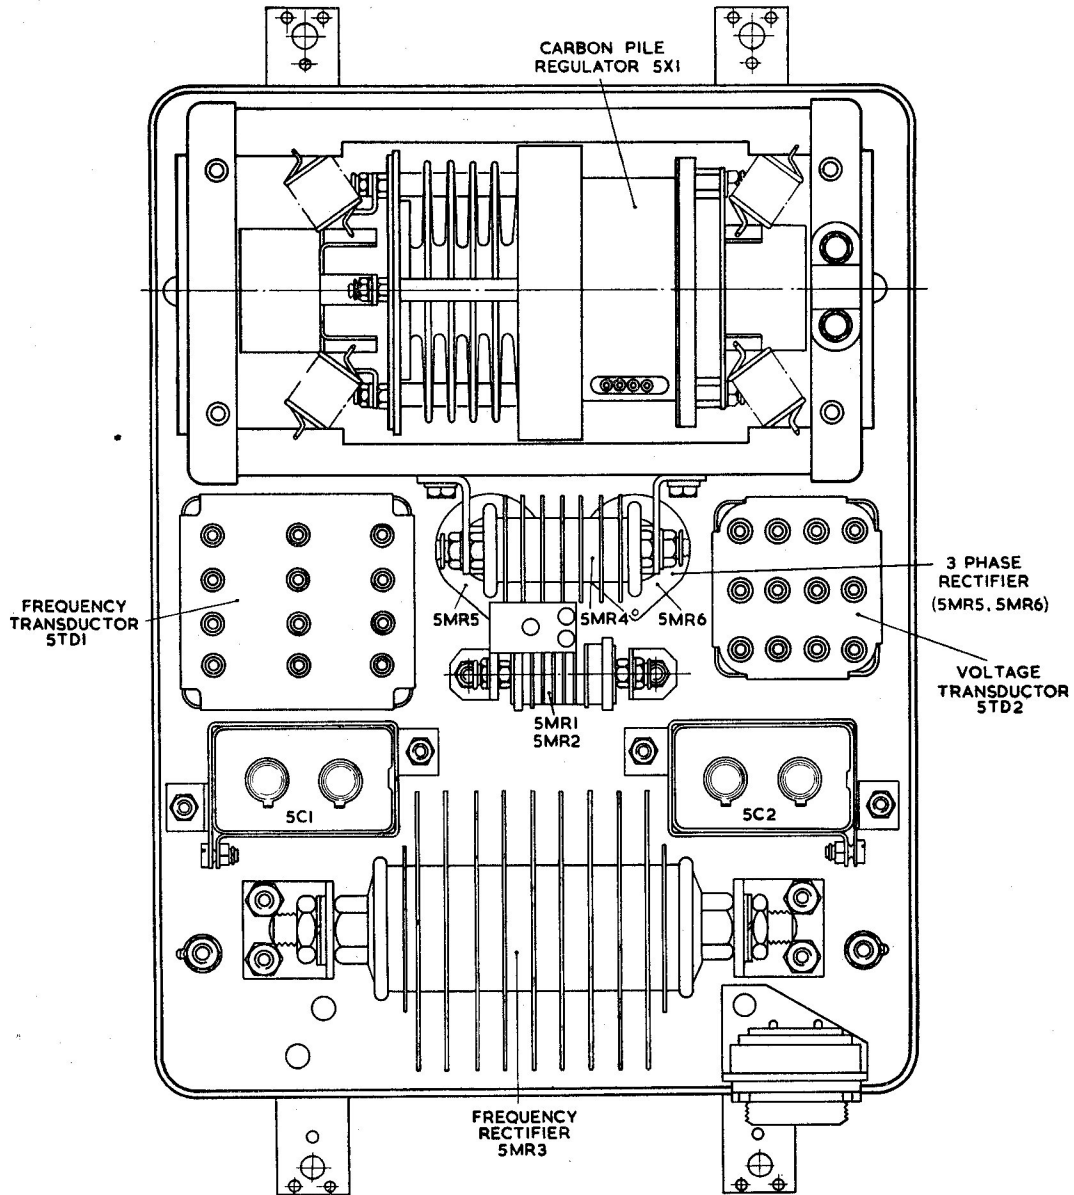
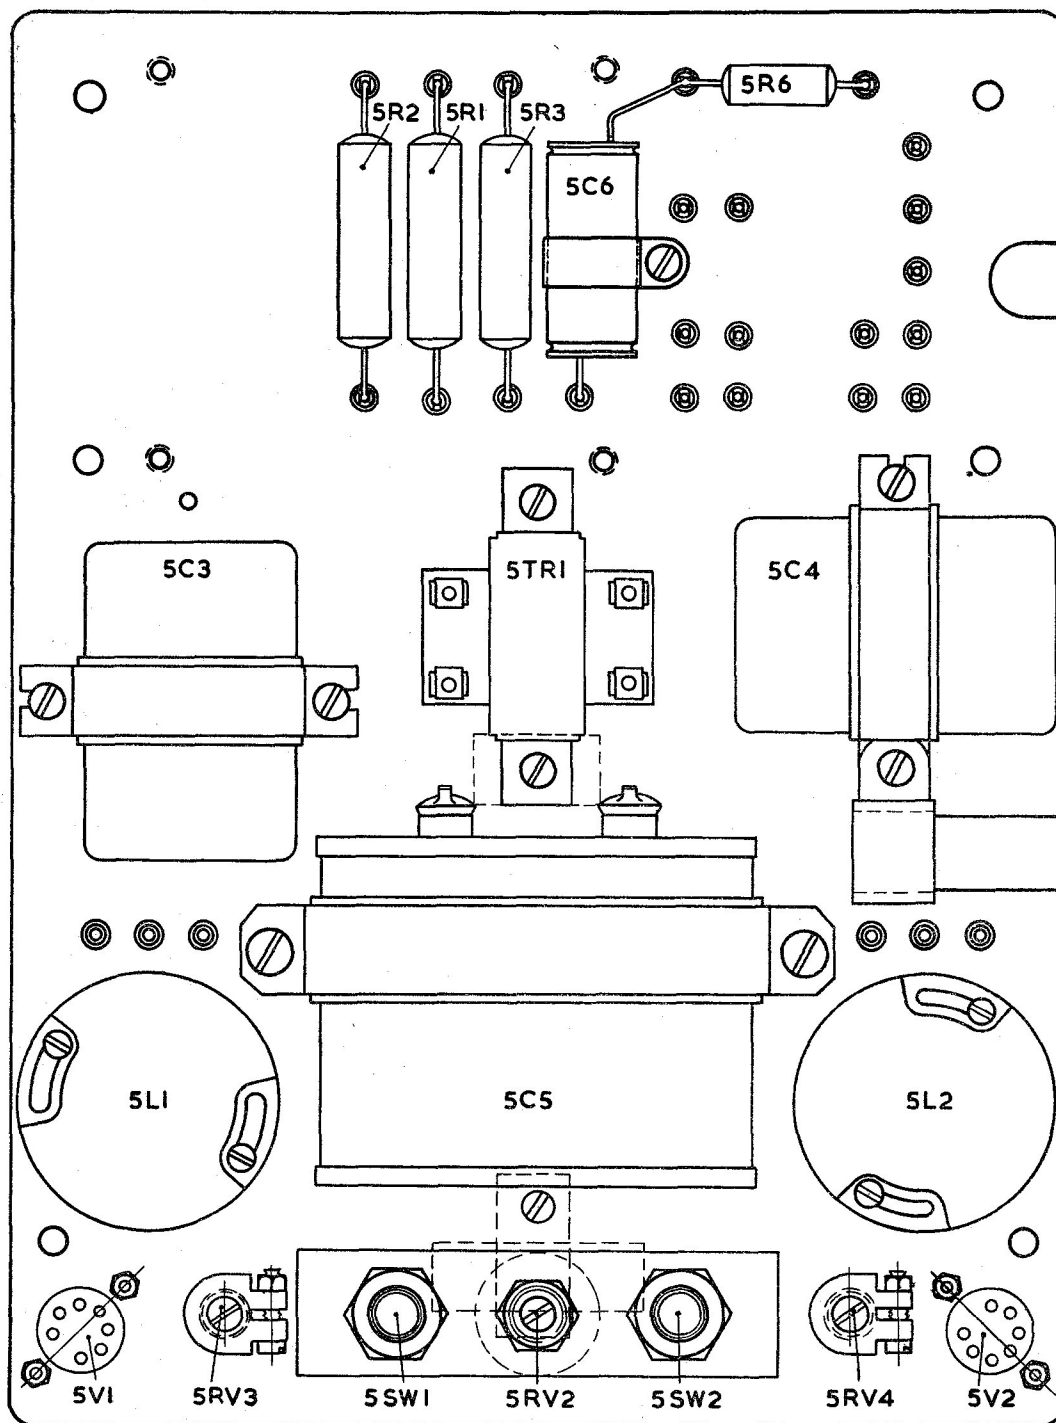
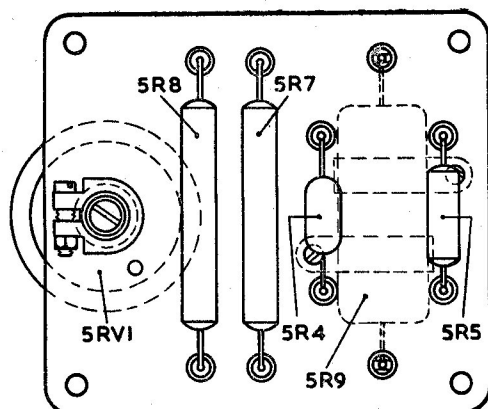

Fig. 2. Base components
Fig. 3. Deck components
Fig. 4. Sub-panel components (U1502/1)
3. The unit is in the form of a sheet metal box, the base of which forms the fixing panel for many of the components (*fig. 2*). Standing off on pillars from this base is an insulated deck (*fig. 3*), and from this deck, a sub-panel (*fig. 4 or 5*) to which are attached the rest of the components. The wiring is taken between the base and deck in proper cable form so that by releasing the four corner nuts the deck can be moved away, making the lower components accessible. The plug is fitted on a